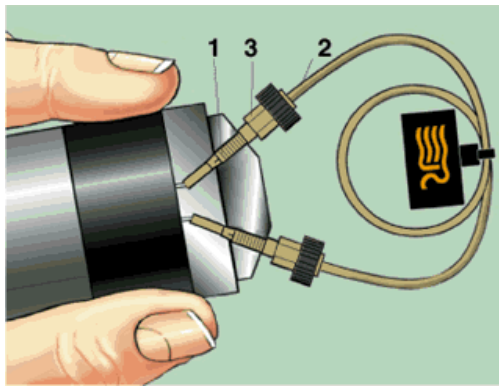

Figure 2. Cut-away view of PEEK sample loop installation.
PEEK loop installation requires steps a–c in the stainless steel section above. Fingertightening of PEEK fittings is adequate to make a leak-free connection. The slotted backside of the ferrule (1) is squeezed down onto the tube (2) by the mating conical surface in the nut (3). See Figure 2. The nut and ferrule can both be reused many times. Unlike ordinary fittings, the unique RheFlex PEEK design, specifically the angles and surface contacts between the ferrule and nut, prevents the nut from gripping the ferrule and twisting both the ferrule and the tube during tightening. Otherwise, such twisting stresses the PEEK tubing and lowers the pressure rating of the tubing.